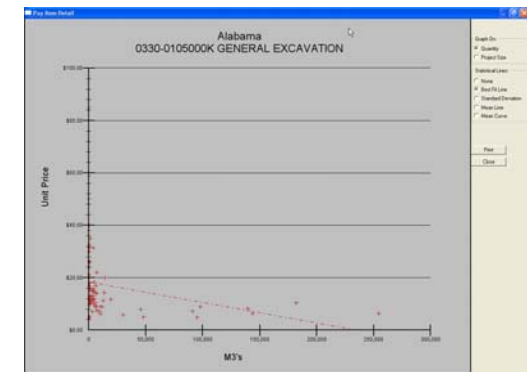

Figure 2.20
**Graph** This option will display a graph of all the prices as shown in Figure 2.20.